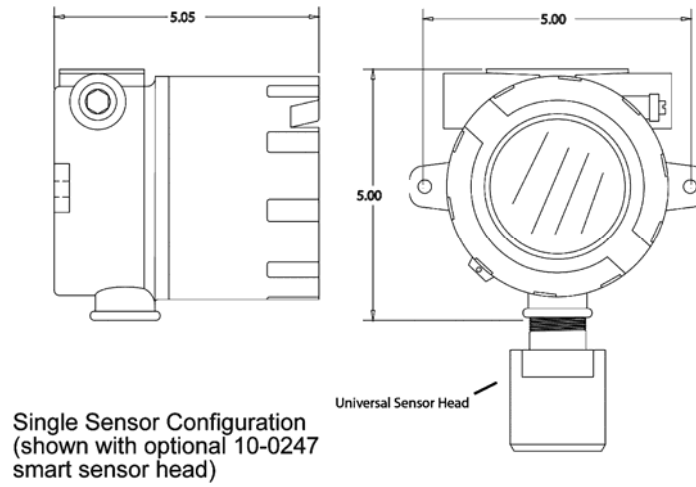
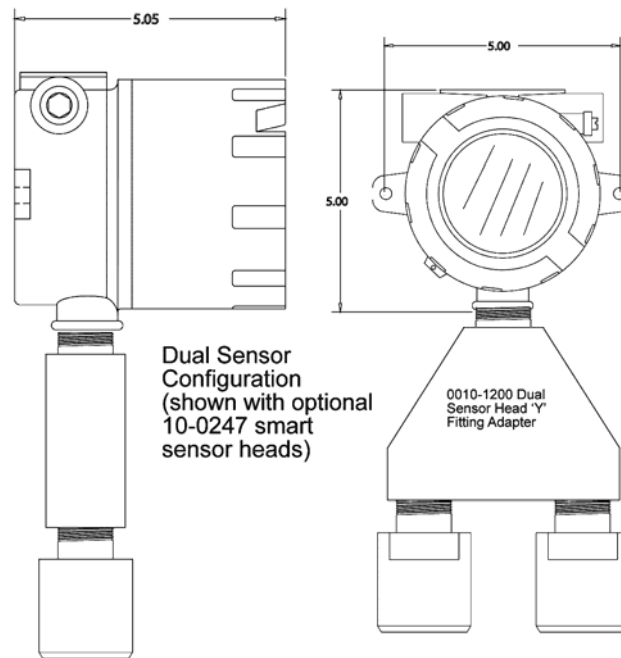
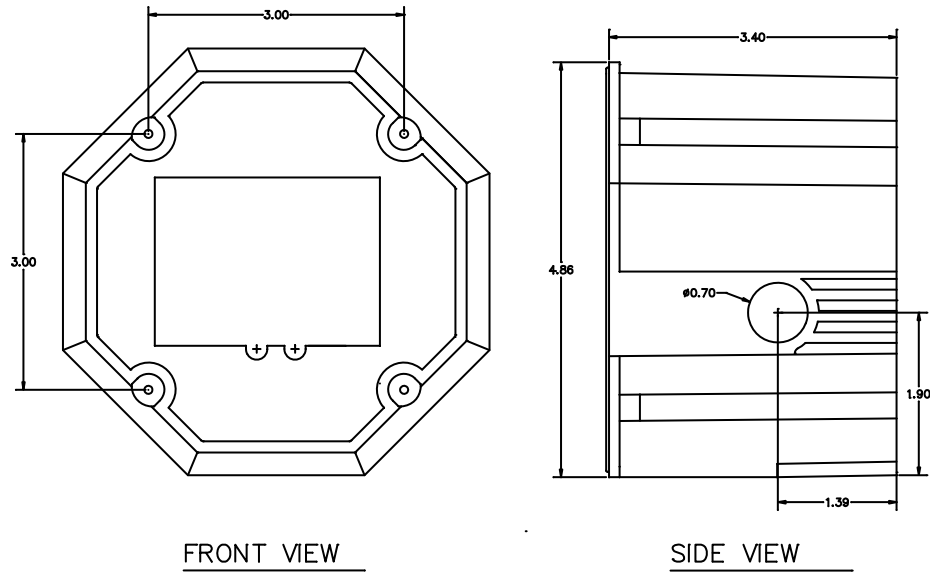

Figure 3-1 BFT-44 Explosion-Proof Housing
Figure 3-2 BFT-44 Explosion-Proof Housing with Dual Sensor Head Adaptor
Figure 3-3 BFT-44 Poly Enclosure without Sensor Head
The BFT-44 standard enclosure is a cast aluminum explosion-proof (NEMA 7) enclosure as shown in Figure 3-1. Figure 3-2 shows dimensions with the dual local sensor head 'Y' adaptor (BFT0010-1200) included. Figure 3-3 shows the dimensions, without the sensor head installed, of the BFT-44's polycarbonate enclosure.
**WARNING:** Qualified personnel should perform the installation according to applicable electrical codes, regulations and safety standards. Ensure correct cabling and sealing fitting practices are implemented. Do not aim the sensor pointing upward. Install the BFT-44 to a wall or bracket using the predrilled mounting flanges with I.D. 0.25 on 5 inch centers (Figure 3-2). If conduit is rigid and able to support the weight of the BFT-44, the mounting bolts may be omitted.
**Instructions:** Remove the cover on the BFT-44. Loosen the two thumbscrews holding the display assembly in place and remove it. A 14-pin ribbon cable is attached with sufficient length to allow access to the I/O PCB mounted in the bottom of the enclosure (Figure 3-3). Power and signal connection are to TB1 where 24VDC, Signal and Common wires must be connected. A blocking diode protects the BFT-44 if polarity of the power supply is reversed, but it will not operate. Reassemble the BFT-44. Follow the procedures and recommendations in the receiver and power supply manuals to complete the installation. Be sure the BFT-44 enclosure and conduit are properly grounded. Apply power, and the BFT-44 should function.